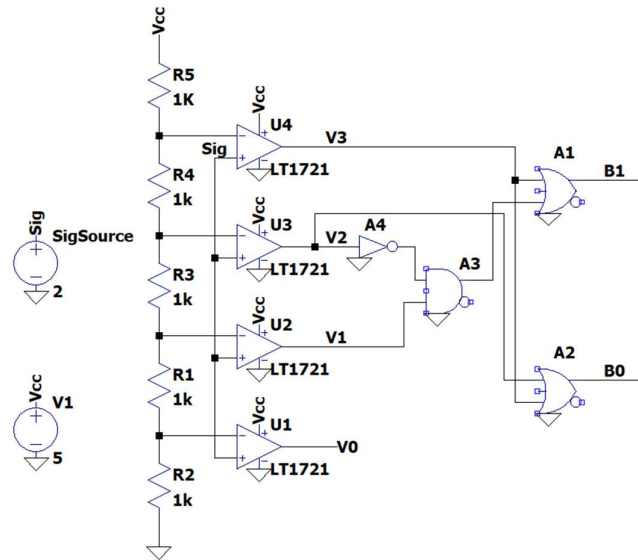

Figure 6
15. GND all the logic gates and wire them as shown in *Figure 6*.